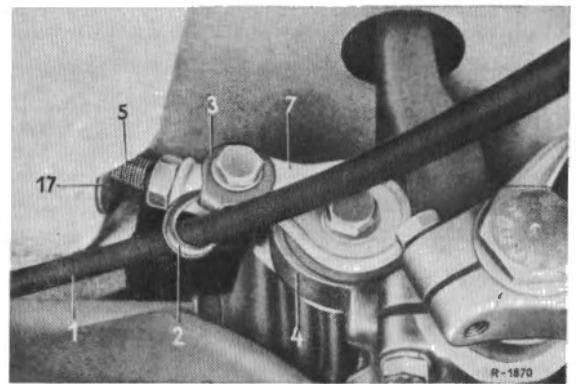

Fig. 42-19/2a
8. During installation make sure that the rubber sleeves (6) sit properly on the collar of the hexagon nut (7) since otherwise dirt will get into the cable guides (Fig. 42-19/1).
Note: On Model 230 SL attach the right brake cable to the rubber eyelet (Fig. 42-19/2a).